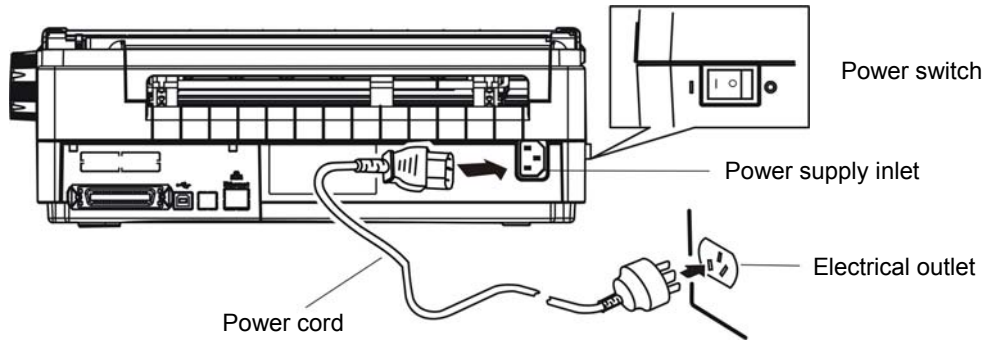

Figure 1-7 Turn off the printer
3. Plug one end of the power cord into the printer's power supply inlet. (As figure 1-7 shown)